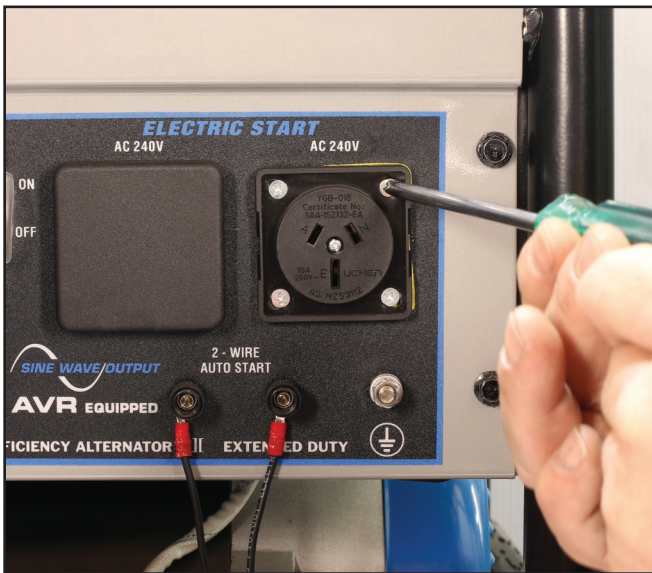

Figure S4 – Removing the 240-Volt AC Socket
- Unscrew the socket from the control panel using a #2 Phillips screwdriver (see Figure S4). It is recommended to retain the screws for future re-installation of the socket.